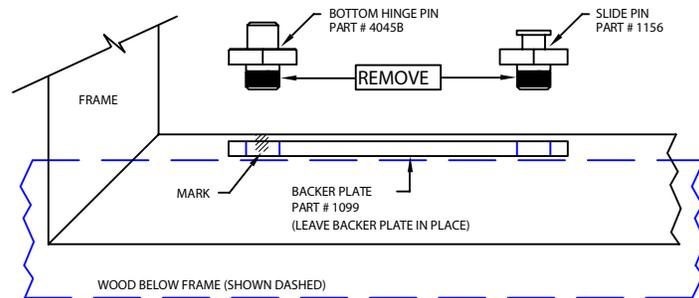

Figure 2
- Remove the hinge pin and the slide pin. Leave the backer plate in place. Do not slide backer plate out of the way. **Figure 2**